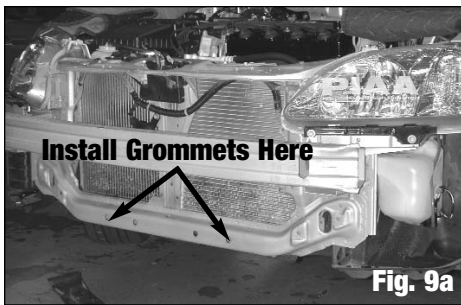
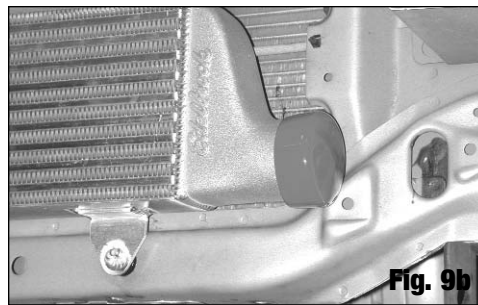
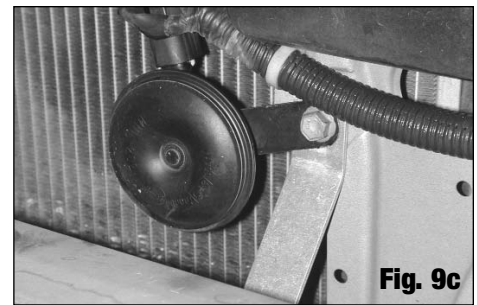

Fig. 9a
Fig. 9b
Fig. 9c
4. Install the intercooler grommets into the holes in the lower radiator support as shown (**See Fig. 9a**). Using a small amount of silicone-based spray lubricant on the grommets will make installation easier. Mount the intercooler by pressing the pins on the lower edge of intercooler into the grommets (**See Fig. 9b**). Using the bolt removed from the horn, attach the intercooler brace and horn to the center radiator support (**See Fig. 9c**).